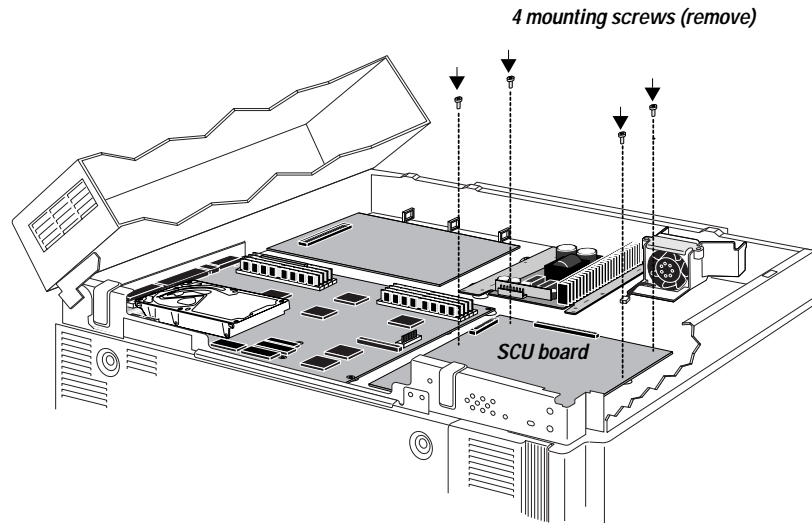

Figure 3-15 Removing SCU board mounting screws
1. Remove four of the mounting screws that secure the SCU board to the copier (see Figure 3-15 on page 3-17). Retain the mounting screws from the SCU board as you need to replace them when installing the mounting brackets.